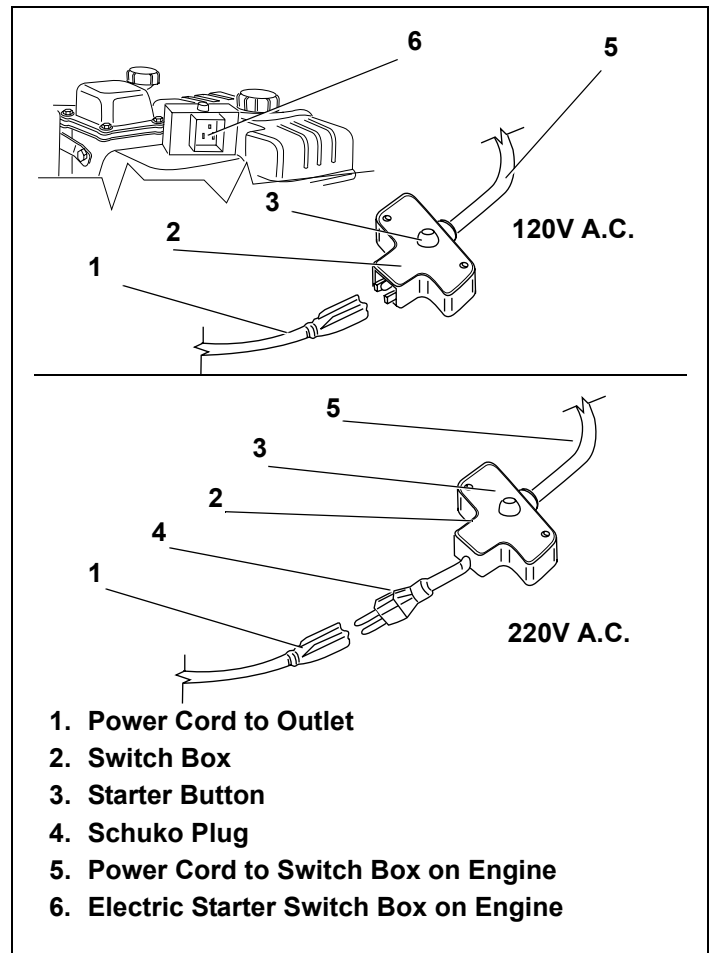

Figure 17. Electric Starter Connections
6. Be sure fuel valve, if present (see equipment manufacturer's instructions) is open. See Figure 17.
When connecting power cord, always connect power cord to switch box on engine first; then into outlet. See Figure 17.